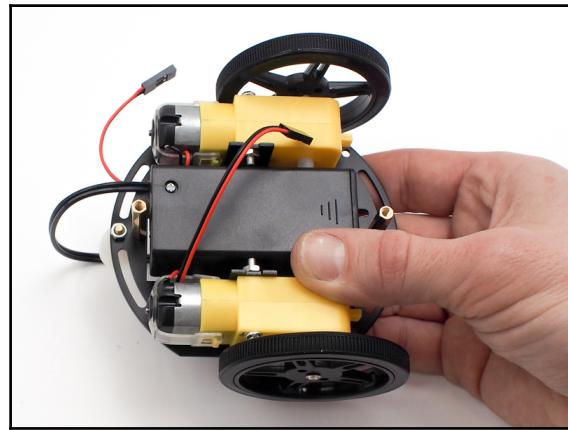

Figure 2.11: Attaching a 9V battery box. Image courtesy of Adafruit Industries (<https://www.adafruit.com>); Image credits—John Park
2. Then place the battery box on the chassis layer between the two motors (*Figure 2.11*):